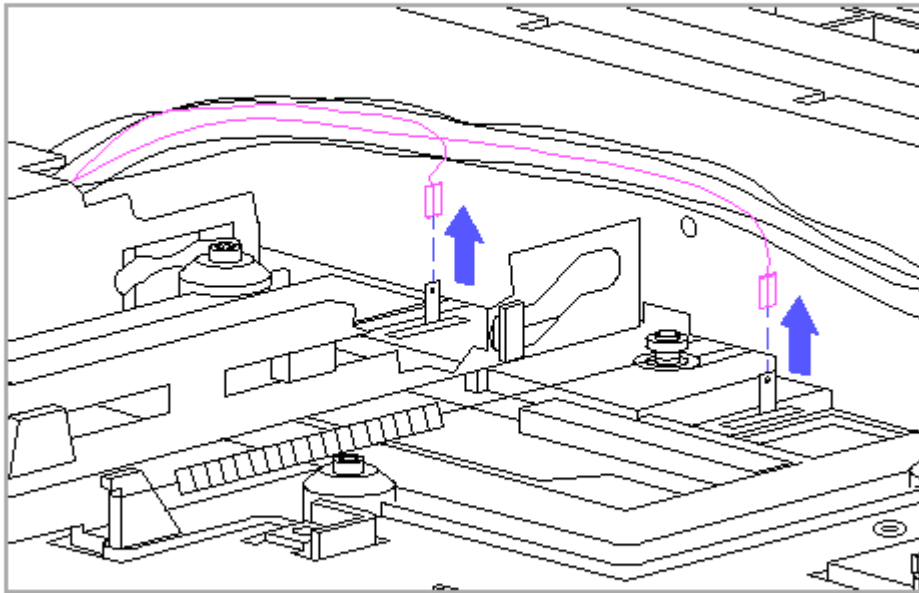

Figure 9-39. Disconnecting the Computer Status Sensor Cables
6. Disconnect the computer status sensor cables from the docking mechanism (Figure 9-39).